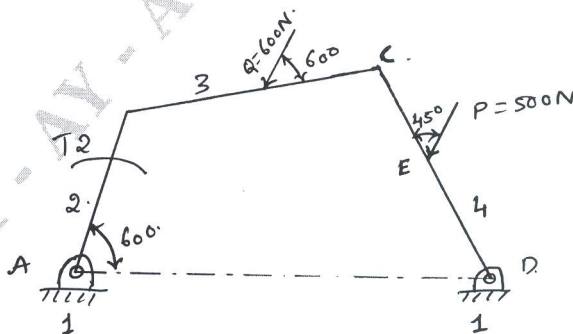

Fig.Q4
- 4 A four bar mechanism under the action of two external forces is shown in Fig.Q4. Determine the torque to be applied on the link AB for static equilibrium. The dimensions of the links are AB = 50mm, BC = 66mm, CD = 55mm, CF = 30mm, BAD = 60° and AD = 100mm.